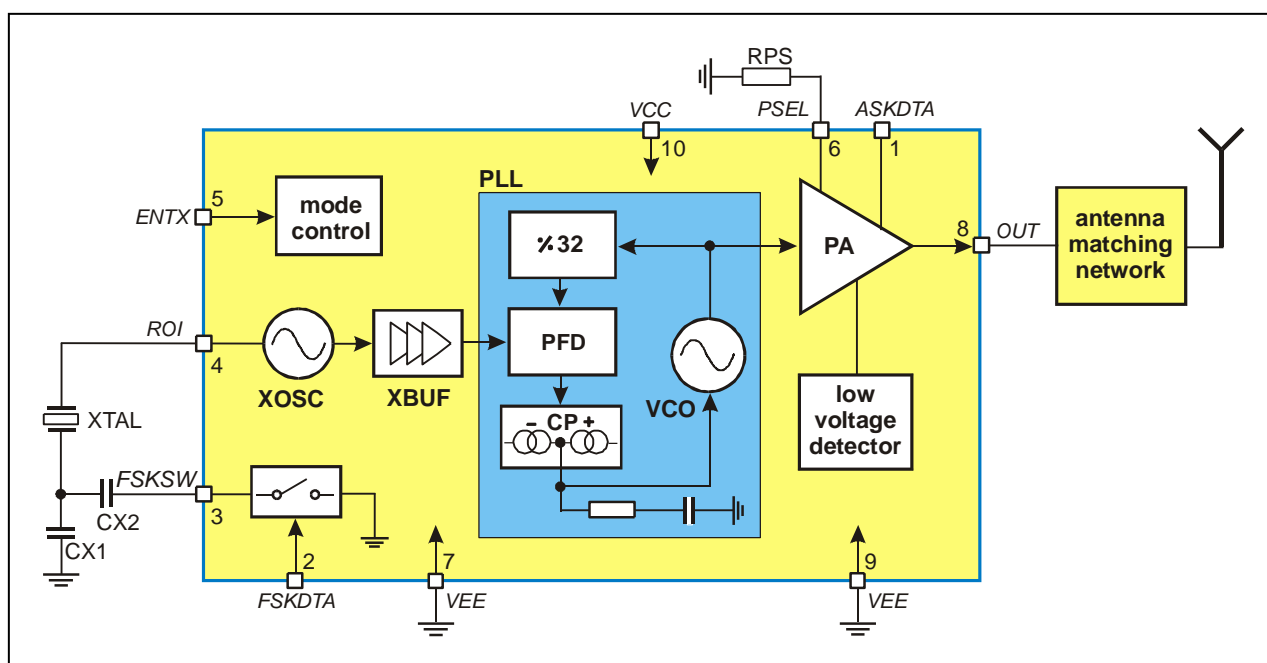

Fig. 1: Block diagram with external components
As depicted in Fig.1, the TH72015 transmitter consists of a fully integrated voltage-controlled oscillator (VCO), a divide-by-32 divider (div32), a phase-frequency detector (PFD) and a charge pump (CP). An internal loop filter determines the dynamic behavior of the PLL and suppresses reference spurious signals. A Colpitts crystal oscillator (XOSC) is used as the reference oscillator of a phase-locked loop (PLL) synthesizer. The VCO's output signal feeds the power amplifier (PA). The RF signal power P_{out} can be adjusted in four steps from $P_{out} = -12$ dBm to $+10$ dBm, either by changing the value of resistor RPS or by varying the voltage V_{PS} at pin PSEL. The open-collector output (OUT) can be used either to directly drive a loop antenna or to be matched to a 50Ω load. Bandgap biasing ensures stable operation of the IC at a power supply range of 1.95 V to 5.5 V.